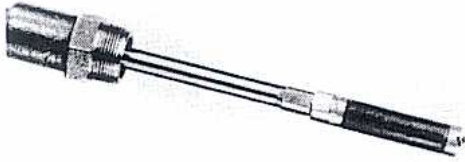

FIGURE 35
1. Attach rubber shut-off tool to boring bar of drilling machine. FIGURE 35. Lubricate the rubber with soapsuds.